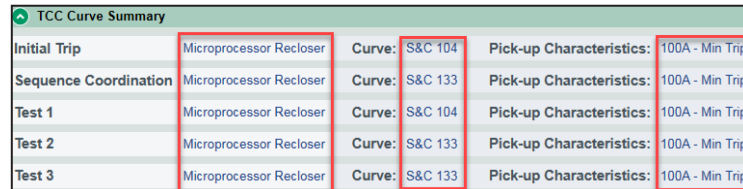

Figure 120. The columns for emulated devices, curves, and pick-up characteristics.
- **Emulated Device.** The type of device the curve is emulating. It displays either Microprocessor Recloser, Fuse Link, or Hydraulic Recloser. See Figure 120.